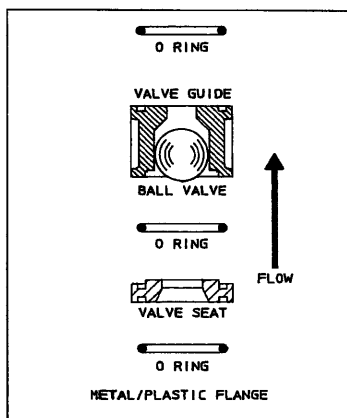

Figure 16
11. Reinstall both valve assemblies, taking care to ensure that they are correctly oriented with balls above seats and the seat with the right angle knife edge up (chamfered edge down). Refer to Figure 16.